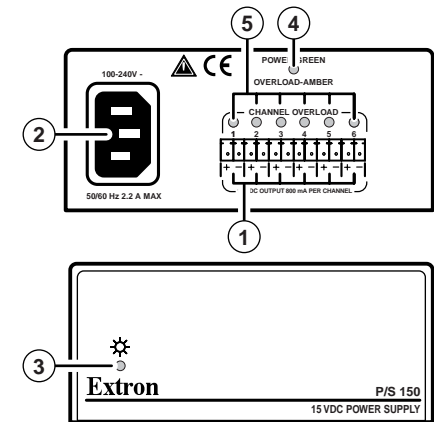

Figure 2 — P/S 150 front and rear panels
1. Connect the power cables from the various devices that will receive power from the P/S 150 to the 3.5 mm captive screw connectors (included) (figure 2).